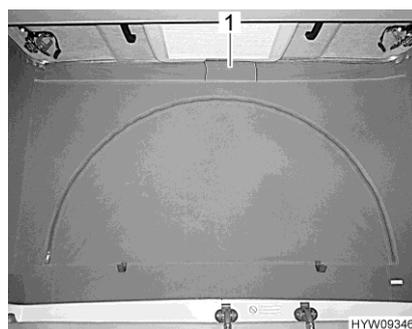

Fig. 31 Ventilation (closed)
- Release the Velcro of the fabric flap (Fig. 31,1) underneath the elevating roof. A mesh is installed behind the fabric flap as protection from insects.